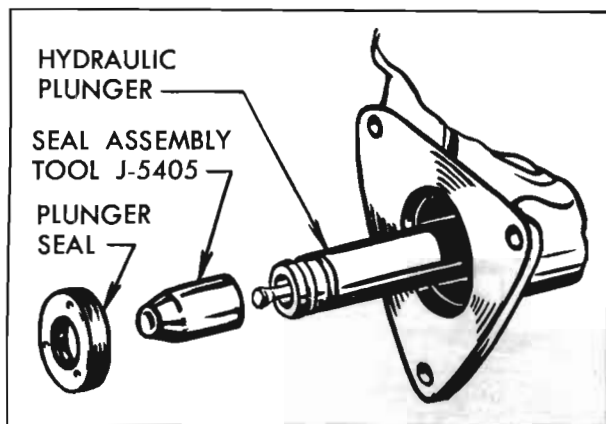

Figure 9-40—Installing Plunger Seal
6. Place Seal Assembly Tool J-5405 over end of hydraulic plunger and install leather plunger seal (lip side first). See figure 9-40. Press seal into recess of hydraulic cylinder and then remove tool.